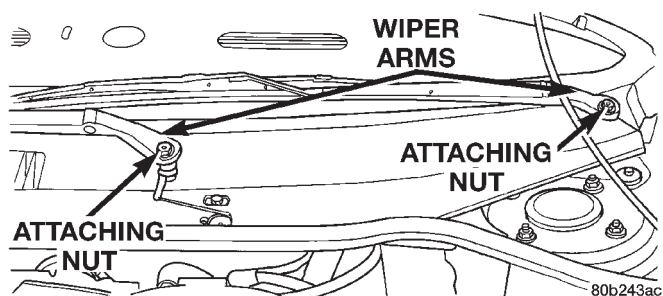
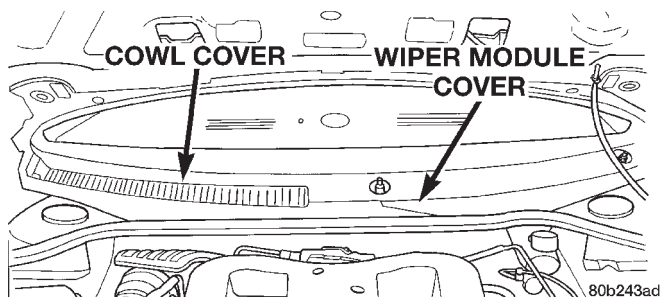

Fig. 53 Wiper Arm Attachment To Pivot
Fig. 54 Wiper Module And Cowl Cover
(2) Remove caps from both wiper arms at the attachment to the pivots to expose the wiper arm attaching nut. Remove the nut (Fig. 53) attaching each wiper arm to its pivot.
(3) Remove the wiper arms from the pivots. Wiper arms are removed from the pivots by rocking them back and force on the pivots until they can be pulled off the pivots.
(4) Remove the wiper module cover and cowl cover (Fig. 54) from the vehicle.
(11) Install the covers (Fig. 54) over the wiper module and the cowl. Install and securely tighten the attaching screws.
(12) Reconnect the battery ground cable to the ground stud on the shock tower.
(13) Turn windshield wipers on, then off, in order to park wipers in the proper position before installing wiper arms.
(14) Install the wiper arms (Fig. 53) on the pivots. Install and securely tighten the wiper arm to pivot attaching nuts. Install the caps on the wiper arms covering the pivot nuts.
(15) Verify proper operation of the brake booster and brake system.